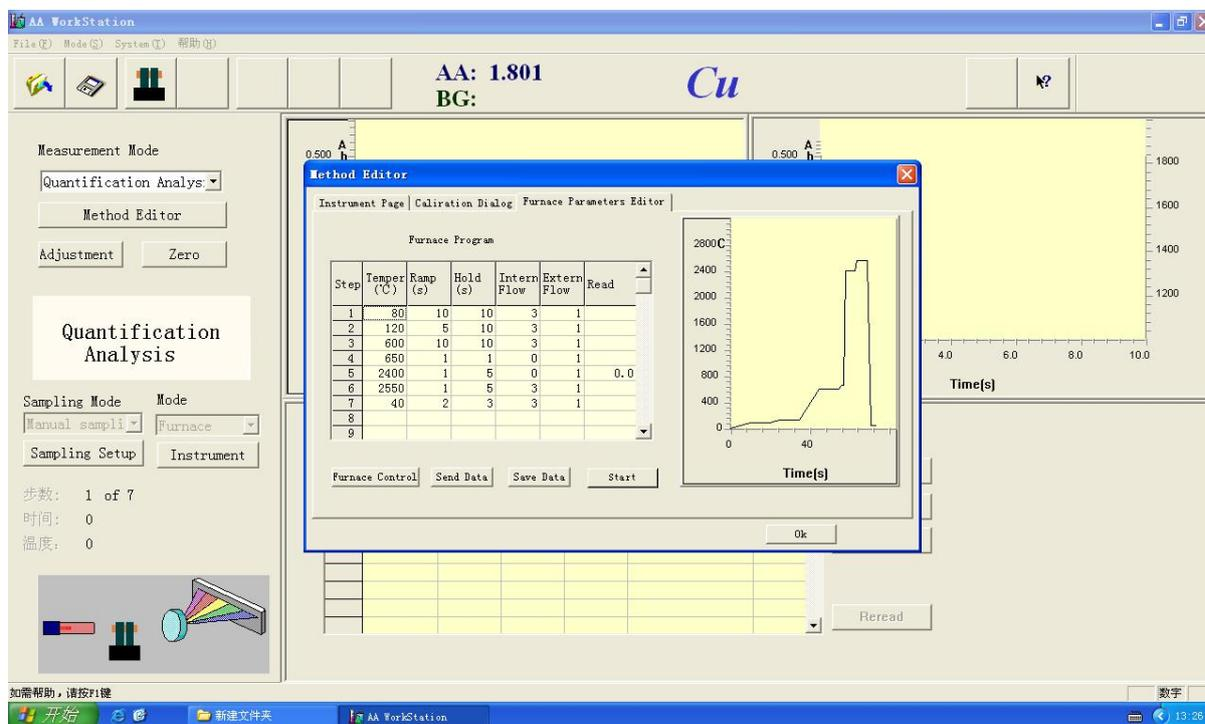

Figure 4-40a
- The window is shown in figure 4-40a, input appropriate numerical values in the form, the range of the parameters are as follows: